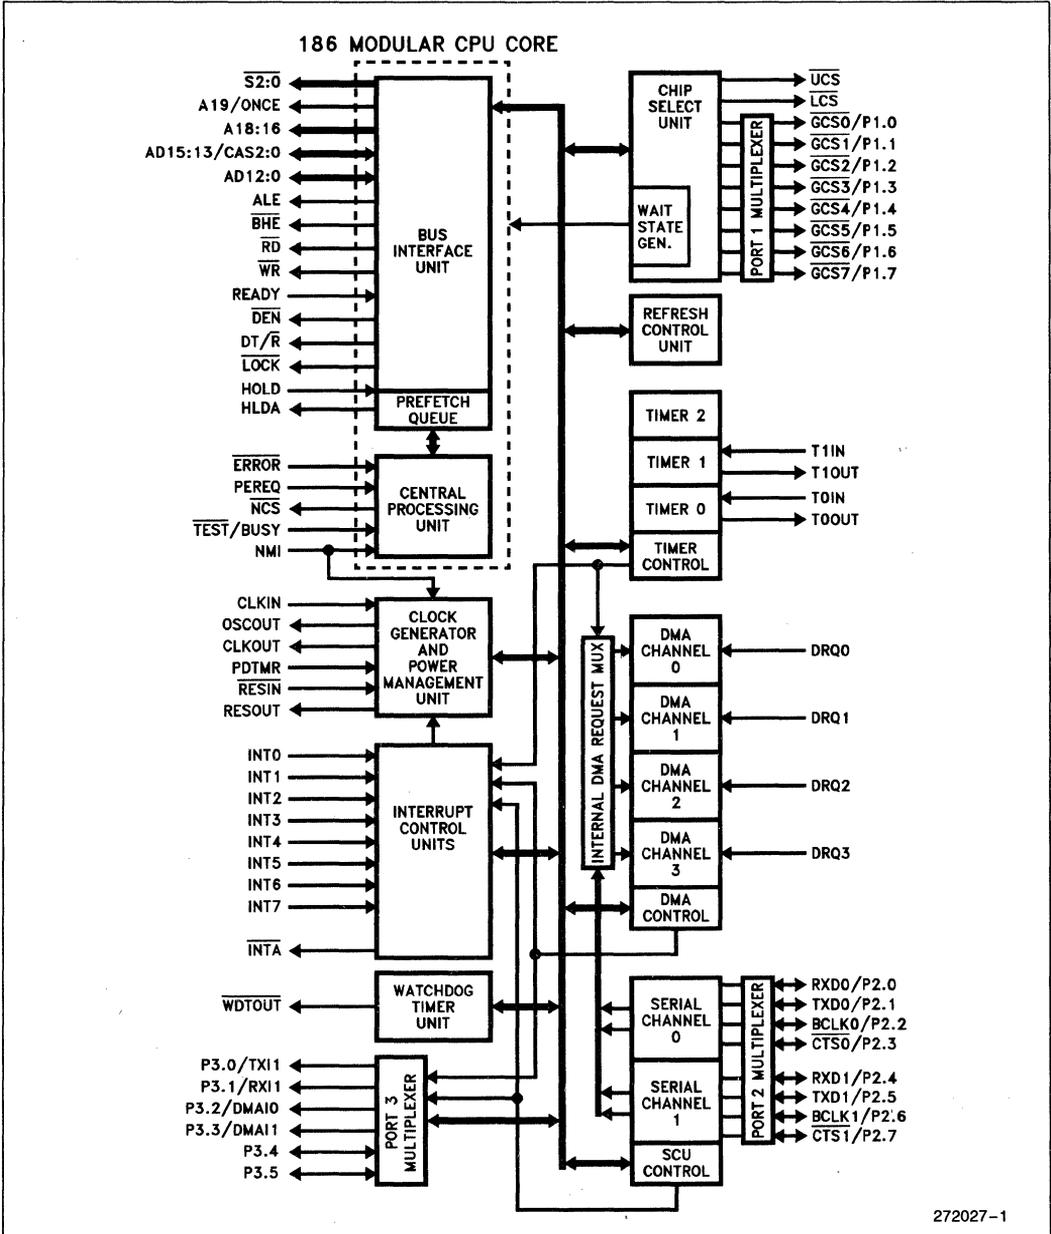

Figure 1. 80C186EC Block Diagram
1. Figure 1 was updated to correct for incorrect pin names (TXD1 and $\overline{\text{TEST}}/\text{BUSY}$), and to rename the Powerdown Control Unit to the Power Management Unit.
2. Figures 1, 5, 6, 8, 11, 12, 17, 22, 23, 24, 26, 29 and 31 and Tables 3 and 4 were updated to correct for errors.
Figure 1 shows a block diagram of the 80C186EC. The execution unit (EU) is an enhanced 8086 CPU core that includes: dedicated hardware to speed up effective address calculations, enhanced execution speed for multiple-bit shift and rotate instructions and for multiply and divide instructions, string move instructions that operate at full bus bandwidth, ten new instructions and full static operation. The bus interface unit (BIU) is the same as that found on the original 186 family products, except the queue-status mode has been deleted and buffer interface control has been changed to ease system design timings. An independent internal bus is used for communication between the BIU and on-chip peripherals.